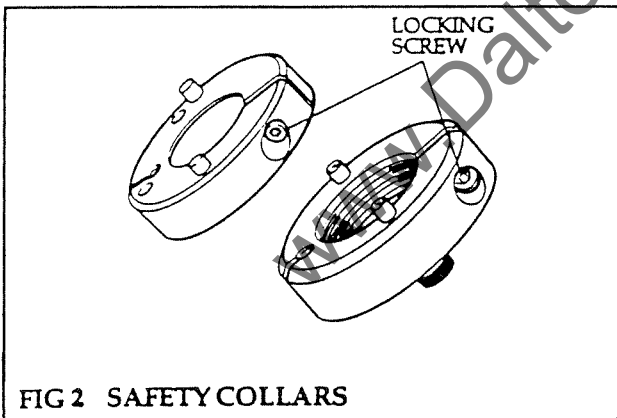

FIG 2 SAFETY COLLARS
- (1) After removal of the outboard bearing release locking screw on safety collar (fig 2) and remove from spindle.
- (2) De-pressurise the hydrogrip cutterblock by turning the pressure release screw (2), located in a recess on the barrel of the cutterblock one quarter turn to release, using a 3mm A/F hexagon key.
- (3) Slide the cutterblock from the spindle.
- (4) Always leave the pressure release screw (2) undone when the cutterblock is not in use to avoid distortion to the cutterblock due to the variation in room temperatures.
- (3) Fit safety collar (see fig 2) and tighten securing screw.
- (4) On plain bore cutterblocks. Tighten the block to the spindle with the spanner/s provided.
- (5) Turn the spindle slowly to ensure the cutterblock is free and replace cover.
- (6) Operate the spindle for a short period to ensure it rotates freely and without vibration.
Safety Collars (fig 2)